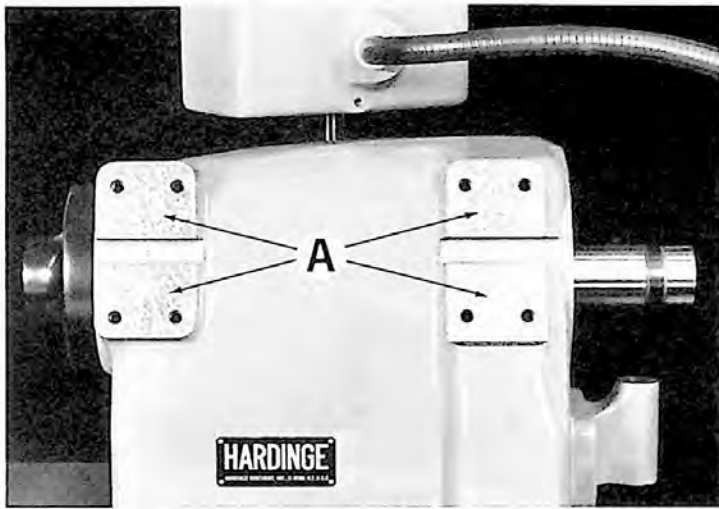

Figure 1 — Threading Unit Mounting Pads
1. Remove any paint or burrs from pads "A", Figure 1, and keyways in pads.